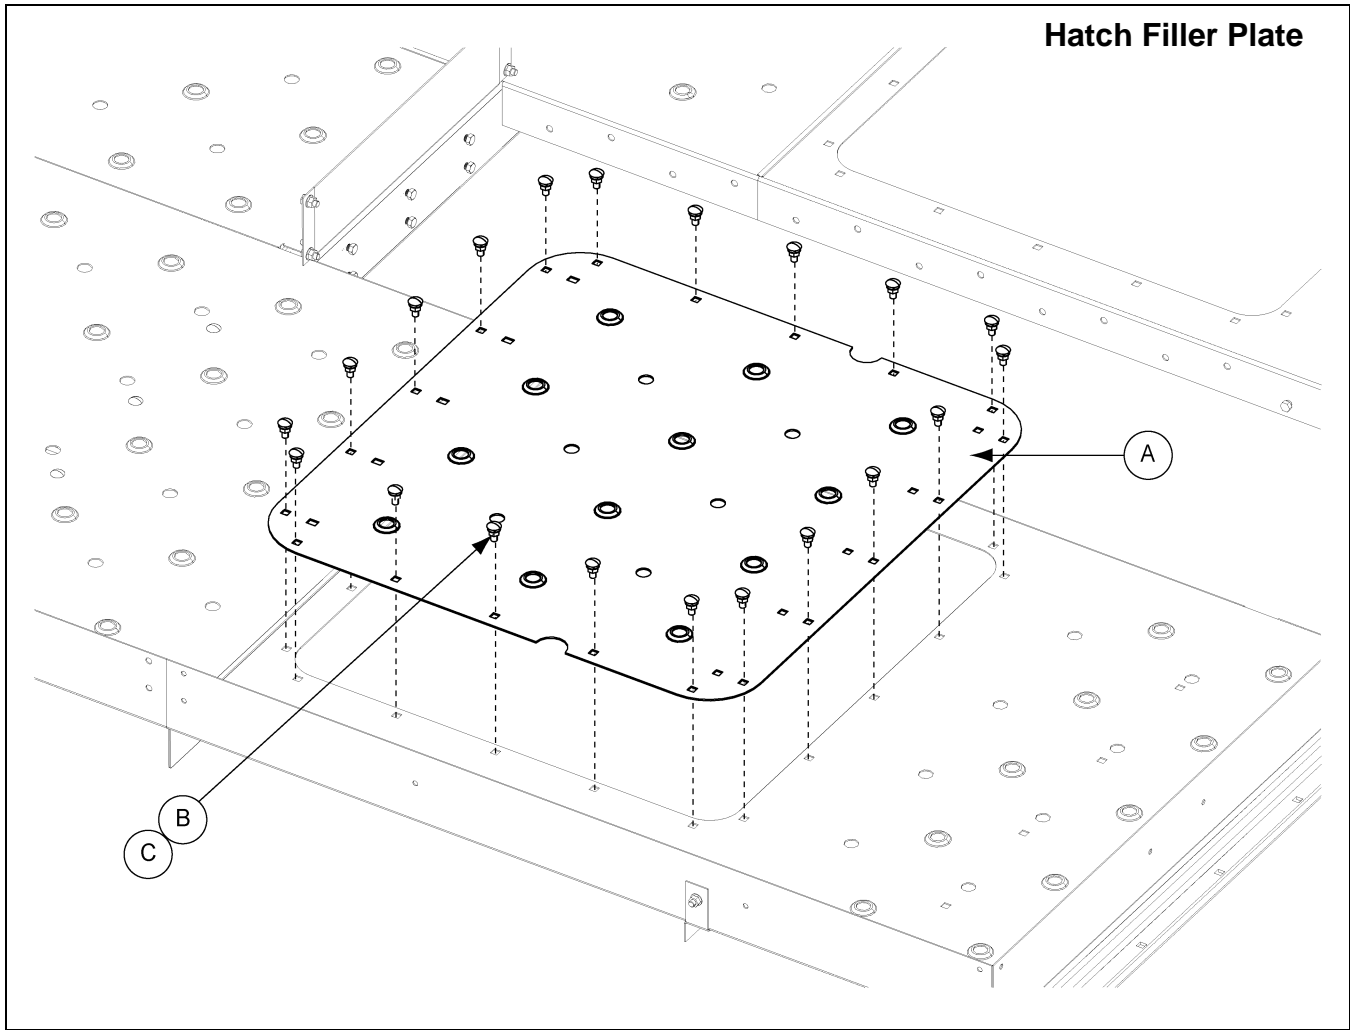

Figure 8M Deck Plate
1. Using 3/8" x 1" carriage bolts (S-3585) and 3/8" flange nuts (S-10028), install the hatch filler plate (HP1624HDF) over the un-used opening. (See Figure 8M.)